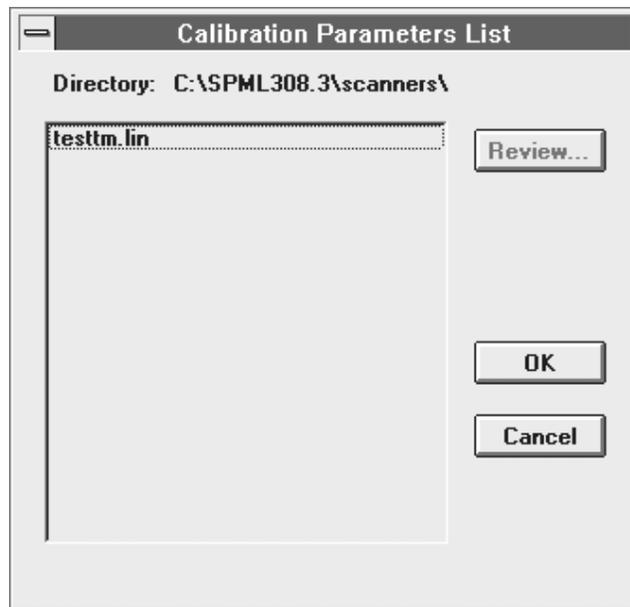

Figure 5-90. The Calibration Parameters List dialog box.
2. Select Process⇒Calibration⇒Load Coefficients to open the Calibration Parameters List dialog box, shown in Figure 5-90.